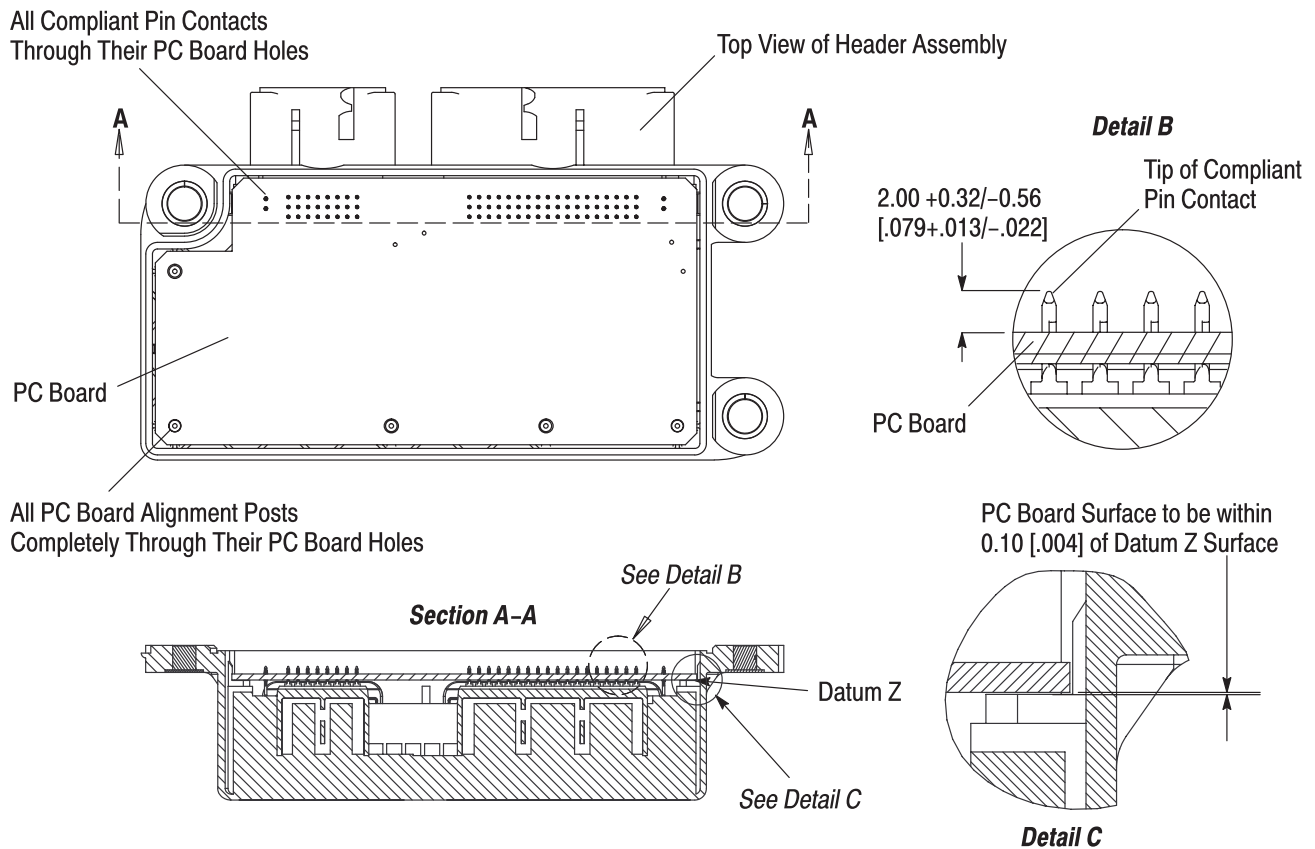

Figure 4
- Added new information to Paragraph 3.4 and added new artwork in Figure 4
- All compliant pin contacts are through their pc board hole to the dimension given in Figure 4.
- Maximum gap between the lower pc board surface and the datum surface on the header assembly is 0.1 mm [.004 in.] as shown in Figure 4, Detail C. The pc board should not be pressed beyond the datum surface.